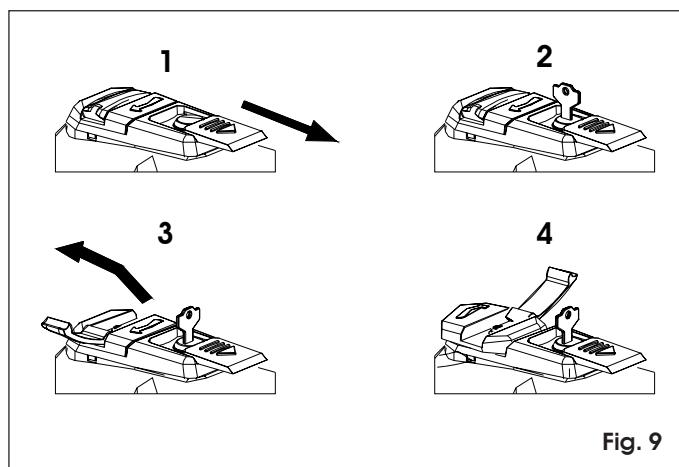

Fig. 9
- 1) Slide the protective tab, Fig.9 / 1.
- 2) Fit the key and turn it through 90°, Fig.9 / 2.
- 3) Lift up the manoeuvre lever, Fig.9 / 3.
- 4) To release the operator, turn the manoeuvre lever through 180°, as shown by the arrow on the release system Fig.9 / 4.